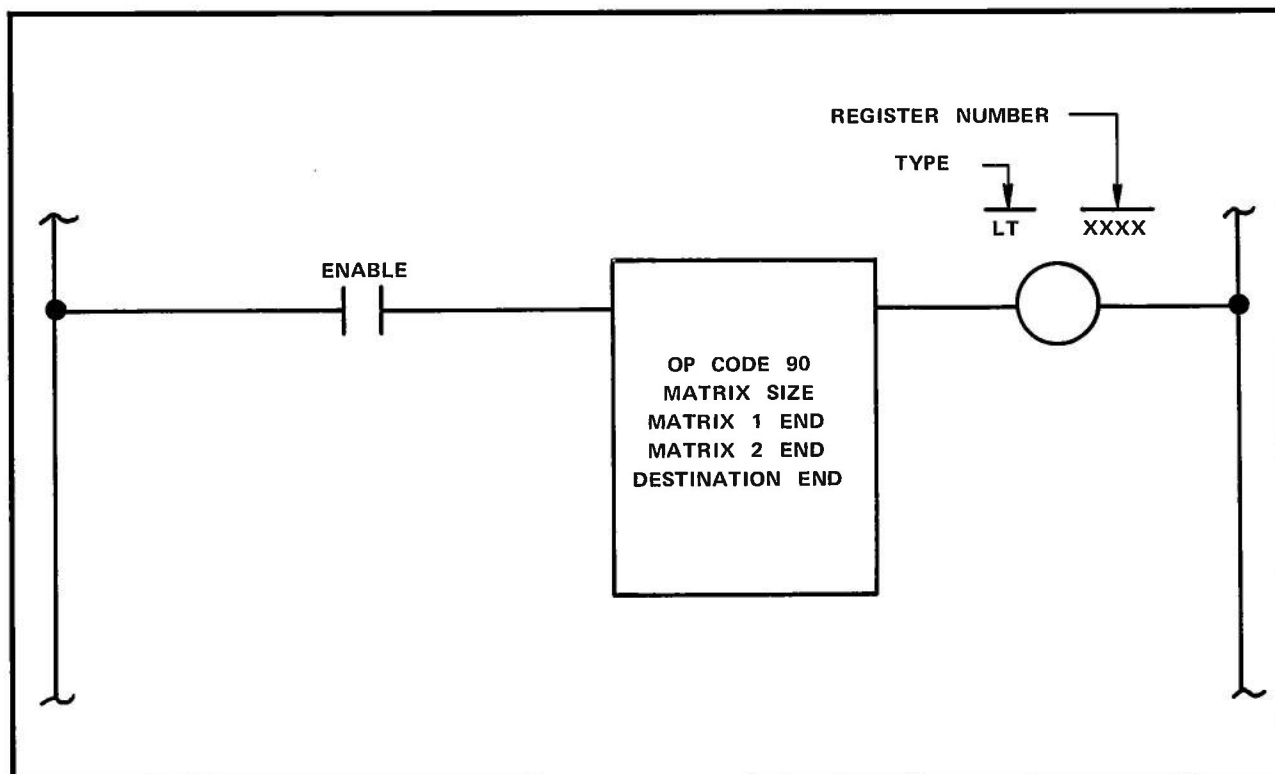

Figure 1. AND Matrix (AM)
The AND Matrix (AM) function logically AND's a pair of matrices on a bit-per-bit basis; then, it places the result in a destination matrix location. AM function symbology is shown in Figure 1.